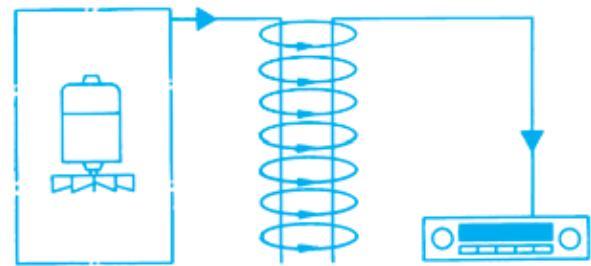

Figure 4-32. Inductive-coupling interference transmitted by an electromagnetic field between adjacent wiring.
- Inductive coupling as the magnetic fields between two conductors form and collapse (Figure 4-32).